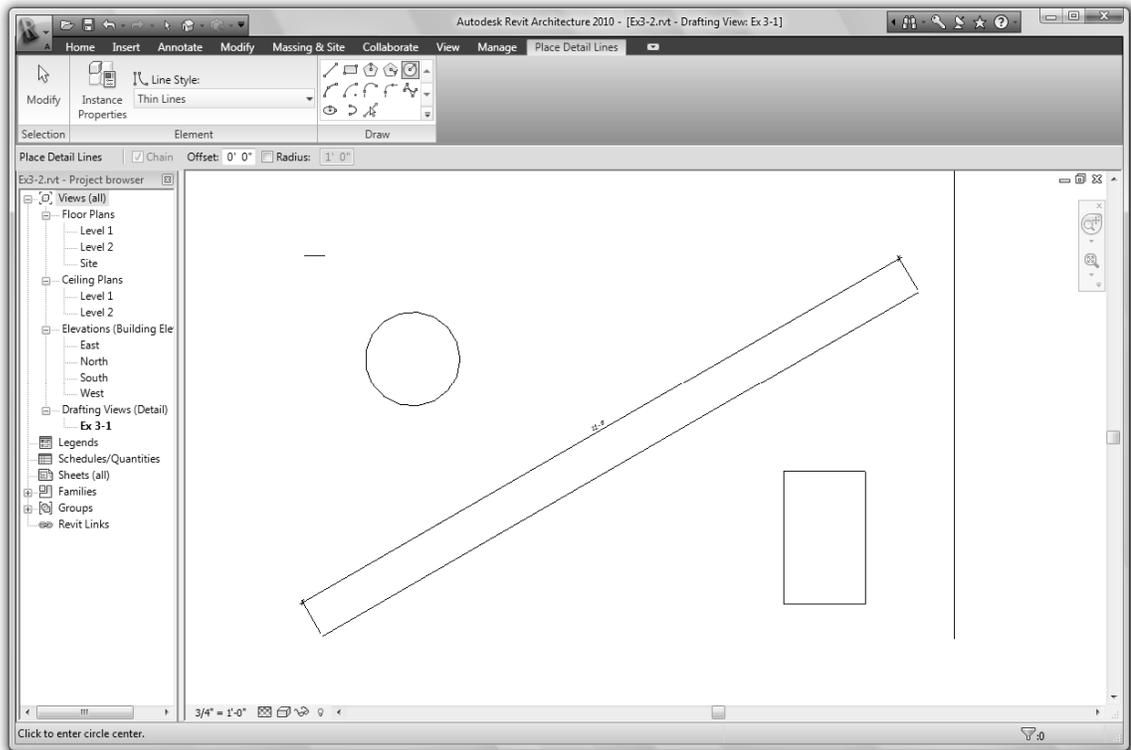

Figure 3-1.17 Drawing with Circle added
47. Type **1 6 5/8** and then press **Enter** (Figure 3-1.17).